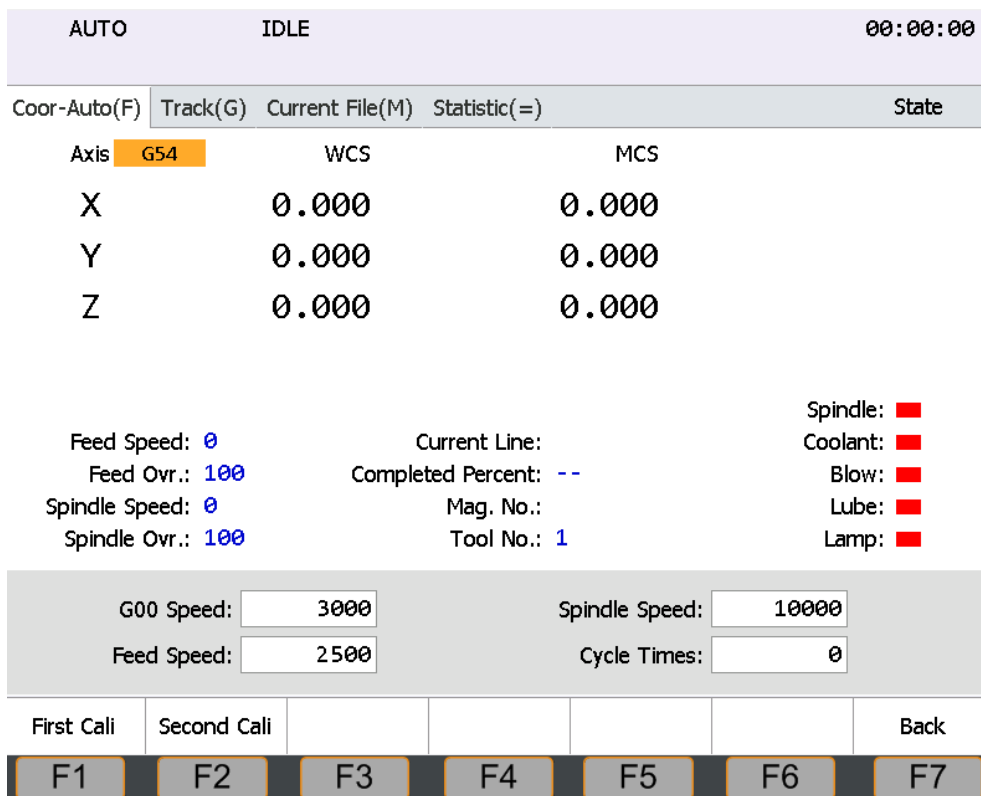

Figure 4-12 First/second tool calibration
1. <F Coor-Auto> → <F5 Tool Cali> (open the interface shown in figure 4-12).